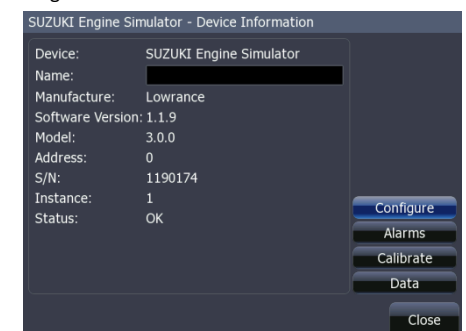

Figure 3.A
- iii. Engine Instances (port/center/starboard) can be set by Suzuki or by using Suzuki SMIS gauges. (Figure 3.B)